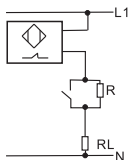

Fig. 14
5. Series connection of mechanical switch and AC sensor.(Fig.14)